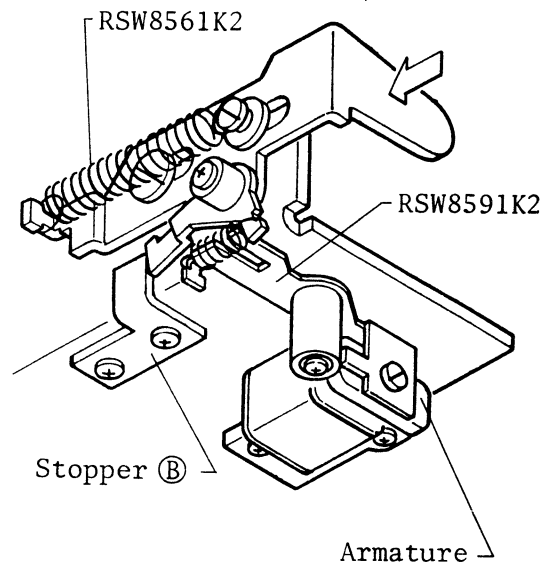

Fig.14
2. As PSW8561K2 stop lever moves in direction shown by the arrow when pressing the shutter release button, the stop lever is stopped by means of the stopper ⑧ as shown in Fig. 14.